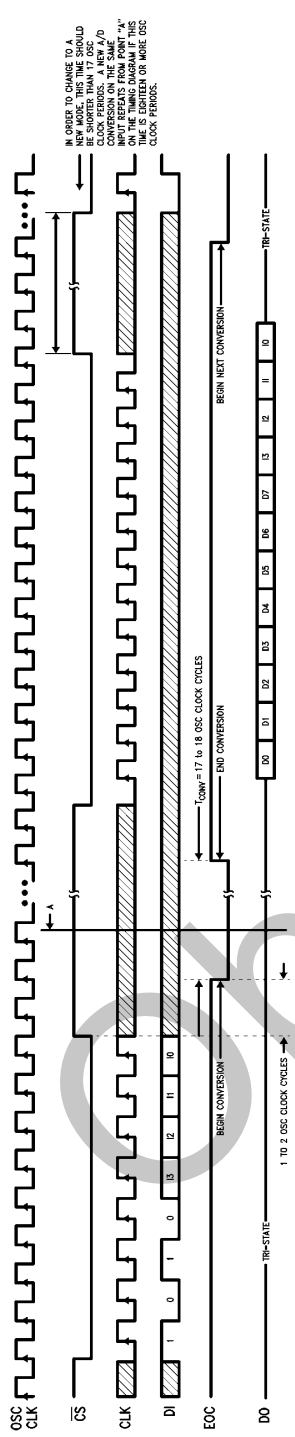

FIGURE 10. Timing Diagram for One A/D Conversion ADC0851/ADC0858
The timing diagram for one A/D conversion is shown in *Figure 10*. After \overline{CS} goes low, the input word (DI) is clocked in starting at the first rising edge of the digital clock signal, CLK. The first four bits of the input word configure the device for “one A/D conversion” mode while the following four bits (channel information address) assign the configuration of the MUX as per Table V(a) and (b) for the ADC0851 and the ADC0858 respectively. Any input data following the channel information address is ignored until the device’s mode of operation is changed.
Note that the output will be TRI-STATE if \overline{CS} remains low after I0 is transmitted. Taking \overline{CS} high after the output data is transmitted causes the device to initiate the start of the next A/D conversion on the same input while ignoring the data input word (DI). If the duration for which \overline{CS} is high is less than seventeen OSC clock periods, the conversion process will be interrupted and the device will look for the mode address at the falling edge of \overline{CS} so as to configure to a new mode of operation. However, if \overline{CS} is high for eighteen or more OSC clock periods then the conversion operation will continue from point A on the timing diagram (*Figure 10*).